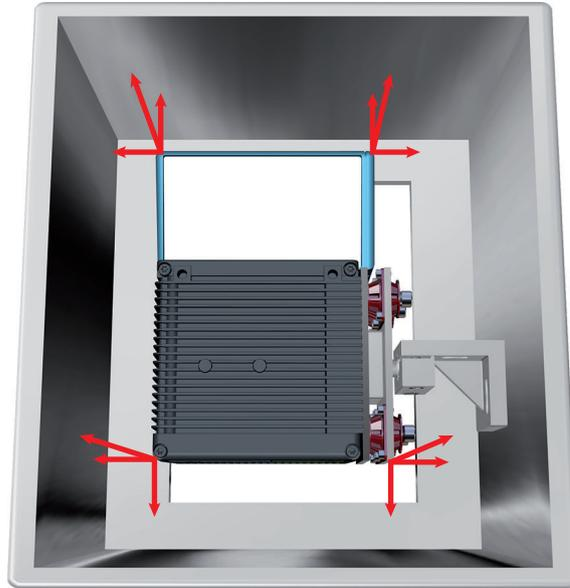

Figure 19: Mounting with mounting holder - taking the working distance into consideration
- ▶ Take a working distance of at least 25 mm in all axial directions of the device into consideration see figure 19, page 31. This applies in particular to inclined installation.